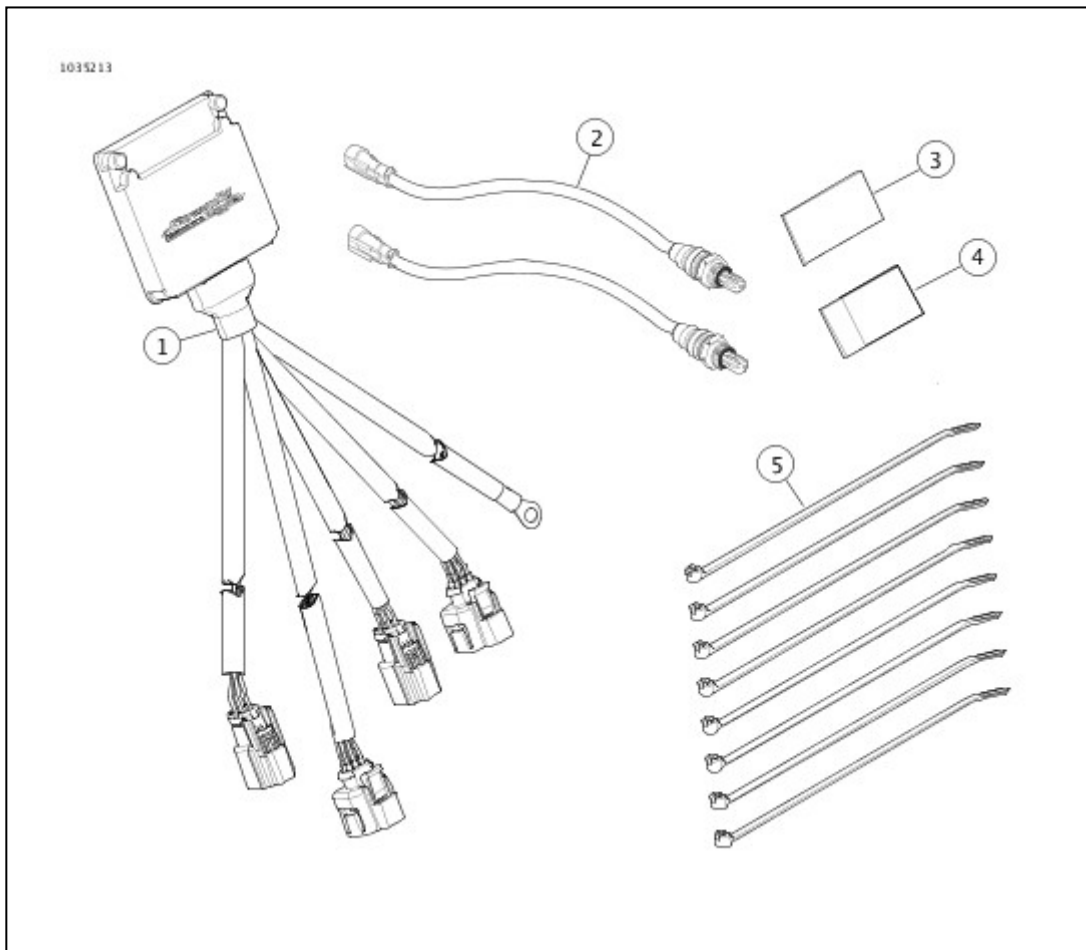

Figure 30.
See **Figure 24** and **Figure 30**. In exhaust header part no. 64884-09A, install wide band heated oxygen sensors (2). Using Oxygen Sensor Socket (Part No. HD-48262-A) tighten to: